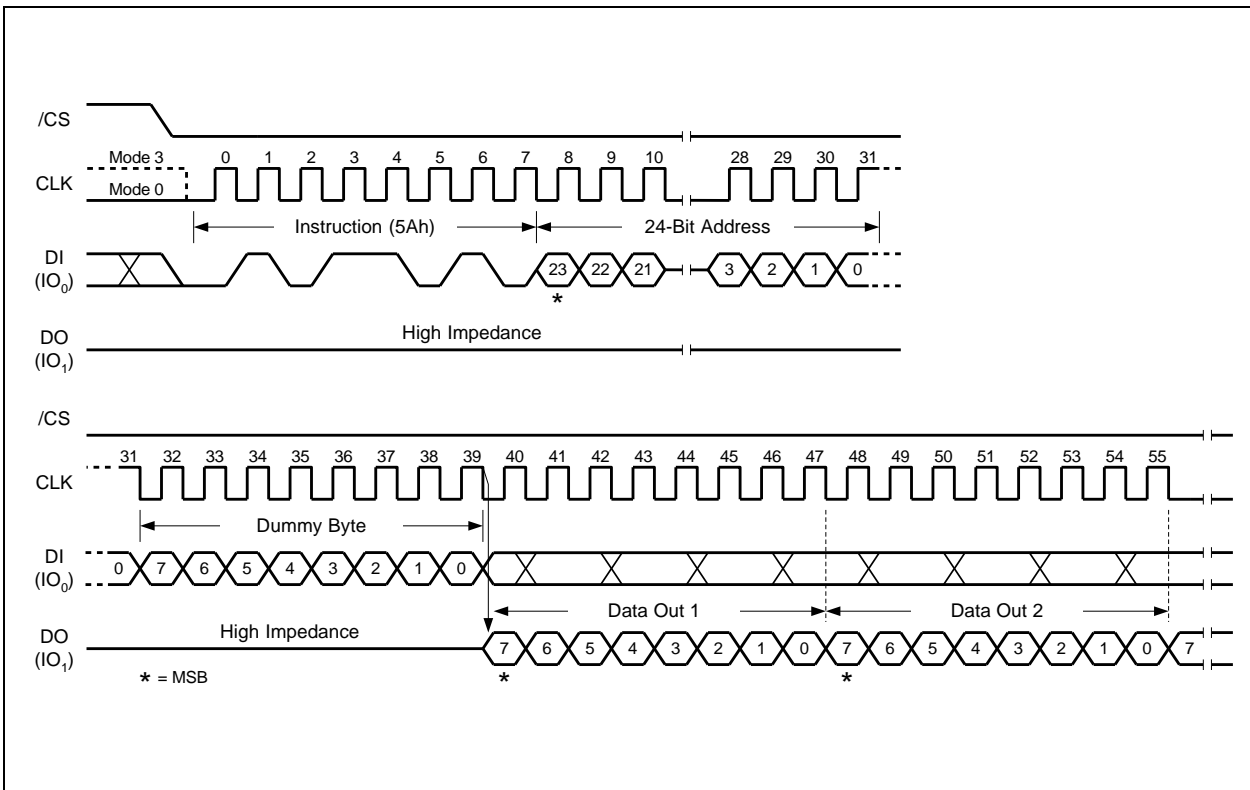

Figure 44. Read SFDP Register Command Sequence Diagram
The Read SFDP command is initiated by driving the /CS pin low and shifting the command code “5Ah” followed by a 24-bit address (A23-A0)(1) into the DI pin. Eight “dummy” clocks are also required before the SFDP register contents are shifted out on the falling edge of the 40th CLK with most significant bit (MSB) first as shown in Figure 44. For SFDP register values and descriptions, please refer to the Winbond Application Note for SFDP Definition Table.